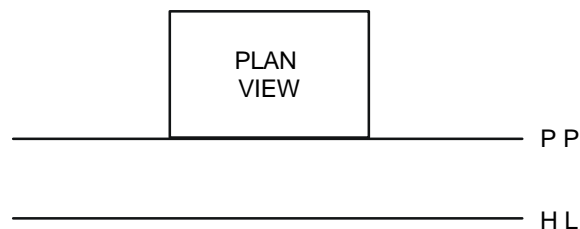

Figure C-4. Plan view method to one-point perspective.
a. One-point perspective occurs when all parallel horizontal lines vanish to a single point (point of sight) located on the horizontal. In one-point perspective, the height and width dimensions of an object are parallel to the picture plane; which is why you might hear one-point perspective referred to occasionally as parallel perspective. This perspective is used when an object is being viewed straight on, not at an angle. In this view, only the depth dimension must be put in perspective. This dimension must have a vanishing point; the height and width do not have vanishing points since they are parallel to the picture plane. In Figure C-4, you see the undersides of the boxes are above the horizon line and are visible, but when the boxes are below the horizon line, their top planes are visible. The front planes remain parallel to the picture plane, regardless of whether they are above or below eye level. One-point perspective is useful when constructing rooms. The ceilings, walls, and floors always recede to one vanishing point, no matter where you are standing.
b. The plan-view method to one-point perspective is discussed in steps (1) through (11).
NOTE: See Figure C-4 for steps (1) through (3).
(1) Establish the horizon line, depending on whether the object is illustrated above or below eye level.
(2) Locate the picture plane somewhere on the drawing surface so that it will not interfere with the drawing. The picture plane can be placed off the drawing paper, as long as the picture plane and the drawing paper are secured to the drawing surface and will not shift out of position. The picture plane can be the same line as the horizon line. With experience you will quickly recognize where things need placing to get the view that you want.
(3) Draw the plan view. Although the plan view can be drawn above or below the picture plane, it is easier to draw it resting on the picture plane.